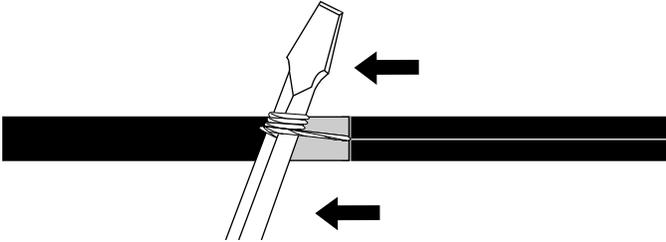

Figure 7
**4.9** Pull the rip cord through the sheath to the wrap of tape (Figure 7). Unwrap the rip cord from the “handle.”